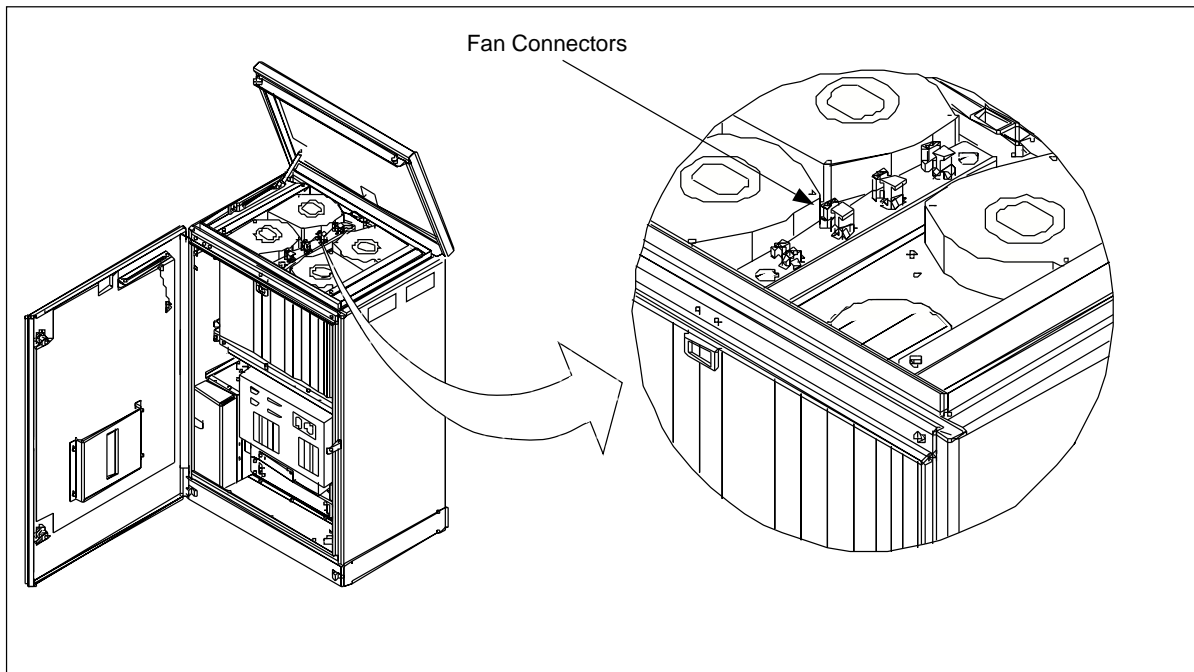

Figure 5-18. The Fan Unit
8. Disconnect the three-wire connector. See Figure 5-18 on page 5-41.